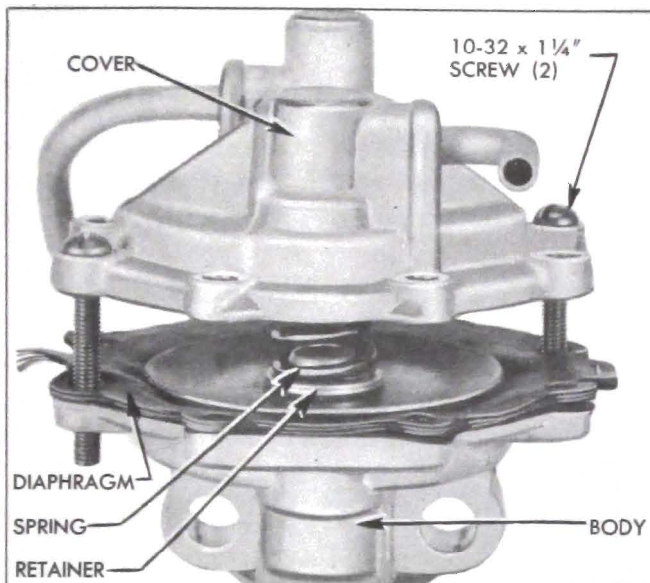

Figure 3-12—Removing Vacuum Cover
1. Replace two diametrically opposite vacuum cover screws with 10-32 x 1¼" screws and turn them down snug. Remove all other cover screws, then alternately loosen the 1¼" screws until pressure of diaphragm spring against cover is fully released. See figure 3-12.
8. With projection of vacuum cover placed toward rocker arm, install two 10-32 x 11/4" screws in diametrically opposite screw holes (fig. 3-12) and alternately turn screws down until cover is close to the diaphragm.